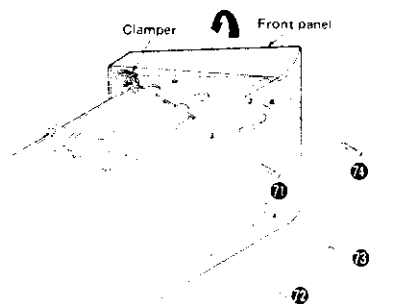

Fig. 17
2. Remove the 4 setscrews (Fig. 17 : ㉔ ~ ㉗) of the front panel.